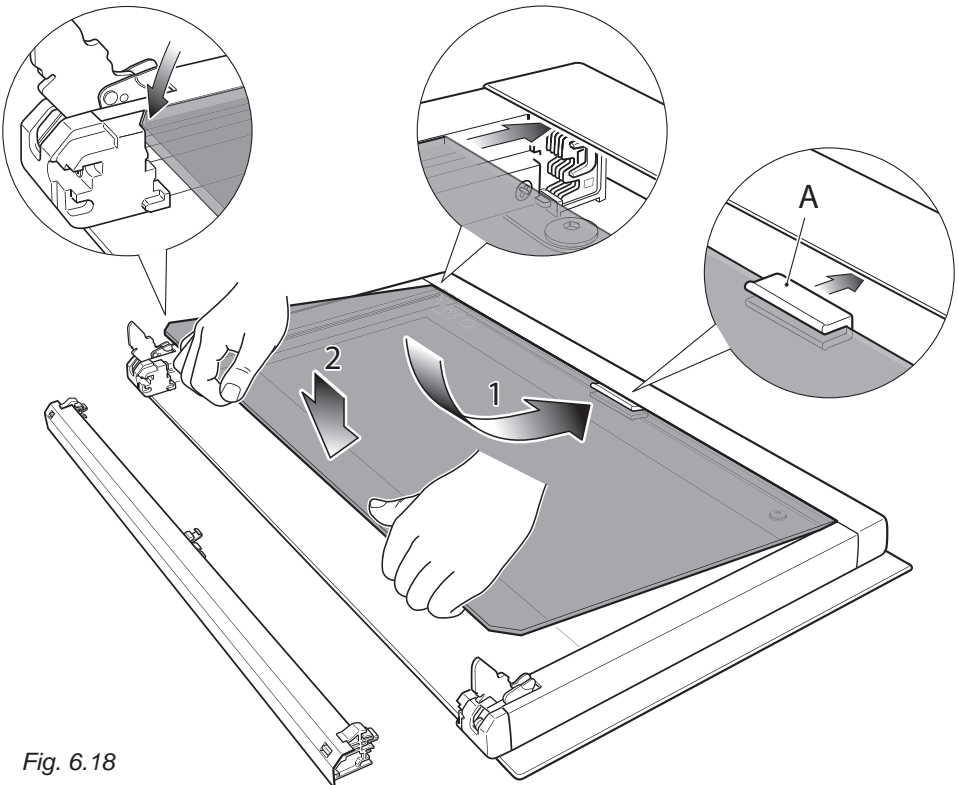

Fig. 6.18
- Check that the gasket "A" is in place (fig. 6.18). If not, correctly place the gasket in the top edge of the inner glass (in the centre).
1. Insert the inner glass pane in the uppermost pair of grooves and push it slightly (arrow 1 in figure 6.18).
2. Gently lower into place (arrow 2 in figure 6.18).